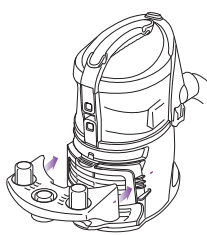

Fig. 2
- 2 Insert the removable tool caddy onto the front of the Portable Vac. (fig. 2) To remove the tool caddy, pull out slightly from the Portable Vac.